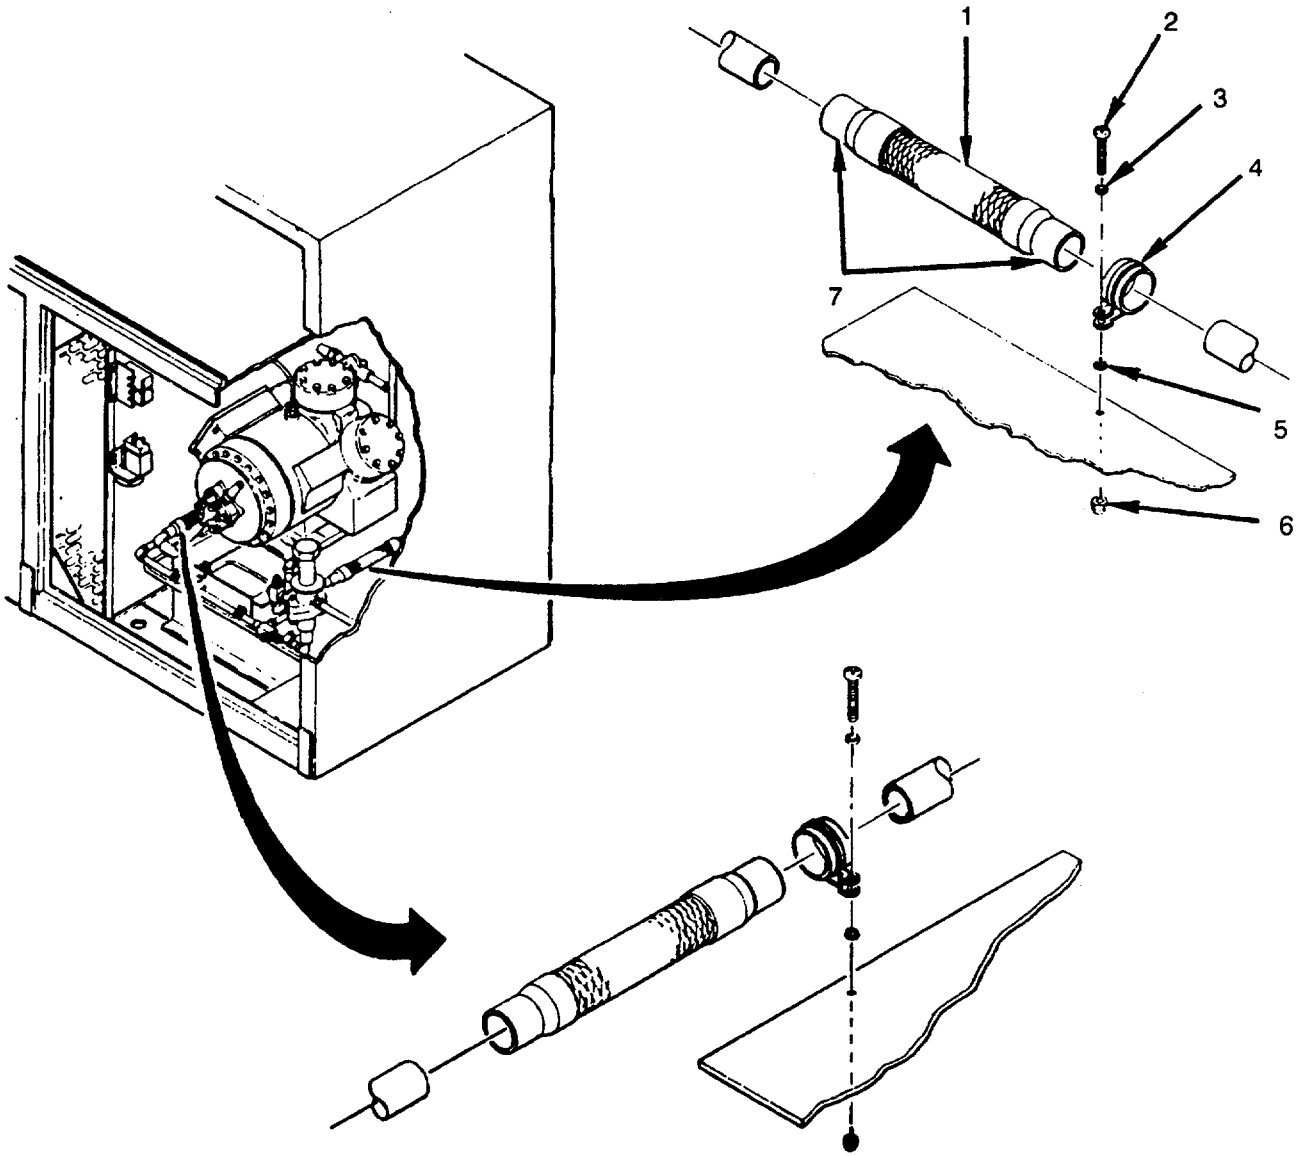

Figure 5-29. Vibration Eliminators
1. Inspect for evidence of leaks or damaged lines (see Figure 5-29).